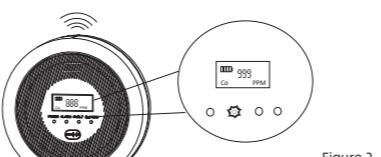

Figure 2
5) Crash: when CO gas detected exceeds the maximum range of 999, LCD screen displays '999' (refer to Figure 2).